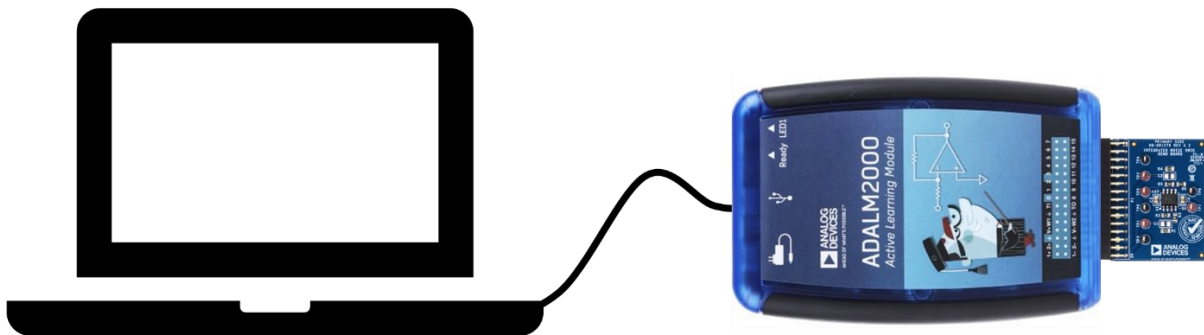

Figure 5. Connecting the ADALM2000 to the Computer
2. Plug in a micro-USB cable to the connectivity port as shown in Figure 5 and connect the ADALM2000 into the computer.